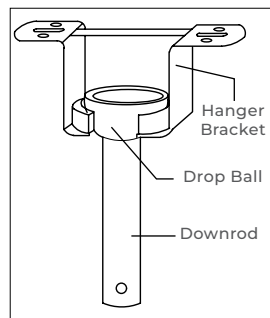

FIGURE 4
A) Place the drop ball in the hanger bracket and turn the pipe so that the groove on the drop ball engages the slot on the hanger bracket. The drop ball groove must engage the hanger bracket slot. (See Figure 4 and 5)